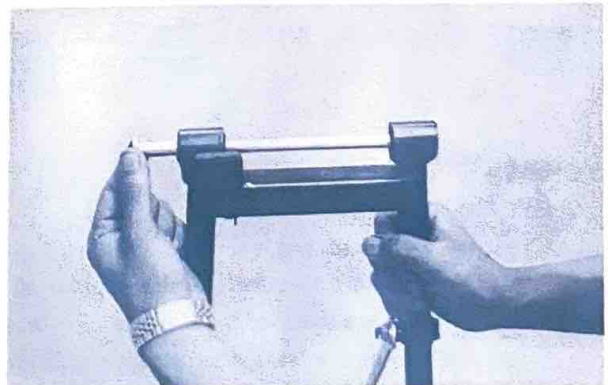

Fig 4-8-4
- 2) Insert the bushing as indicated in Fig 4-8-4, and check it for play. If the play is excessive, replace the bushing